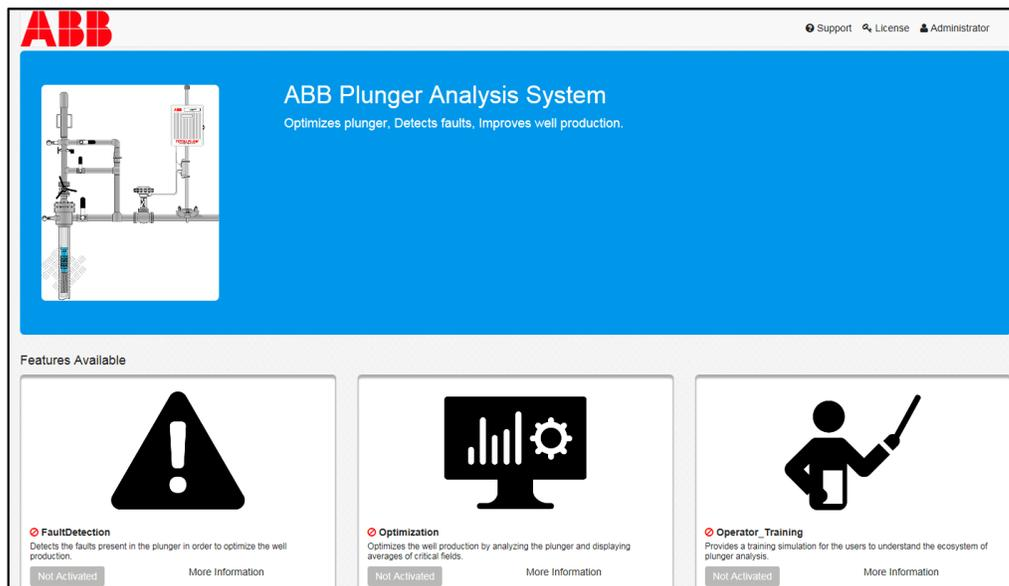

Figure 27: Plunger Analysis System main screen (before feature activation)
- 1) On the main PAS screen, type credentials to log in. The features are shown as Not Activated (Figure 27).